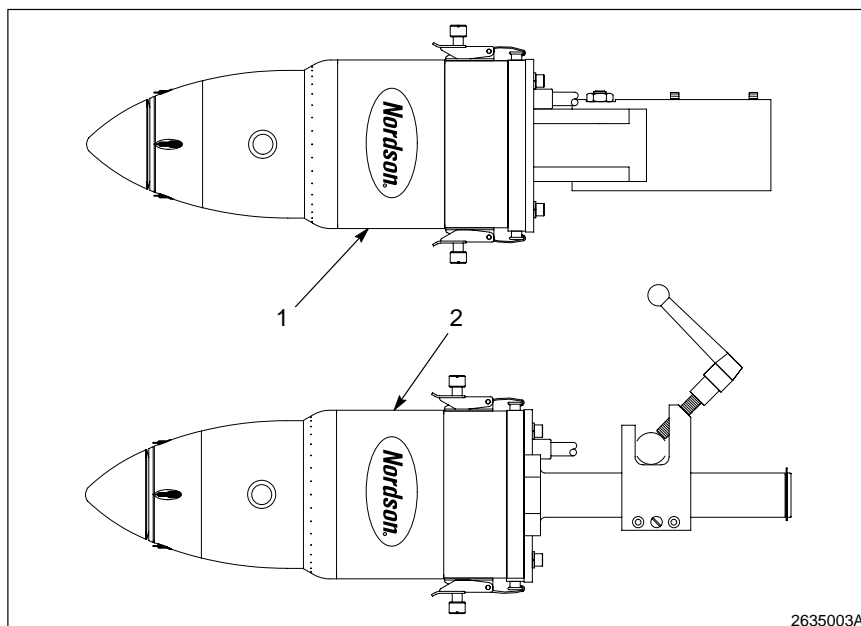

Fig. 3-1 Mounting Assemblies
See Figure 3-1. The system may be mounted to a tube or a bar mount assembly.
See Figure 3-1. The assembly fits over the end of a 48.5 mm (1.91 in.) outside diameter (OD) aluminum or steel tube. It is usually used for permanent installations because it is more rigid. The pneumatic, electronic, and powder lines can be routed directly through the tube, resulting in a less cluttered installation.